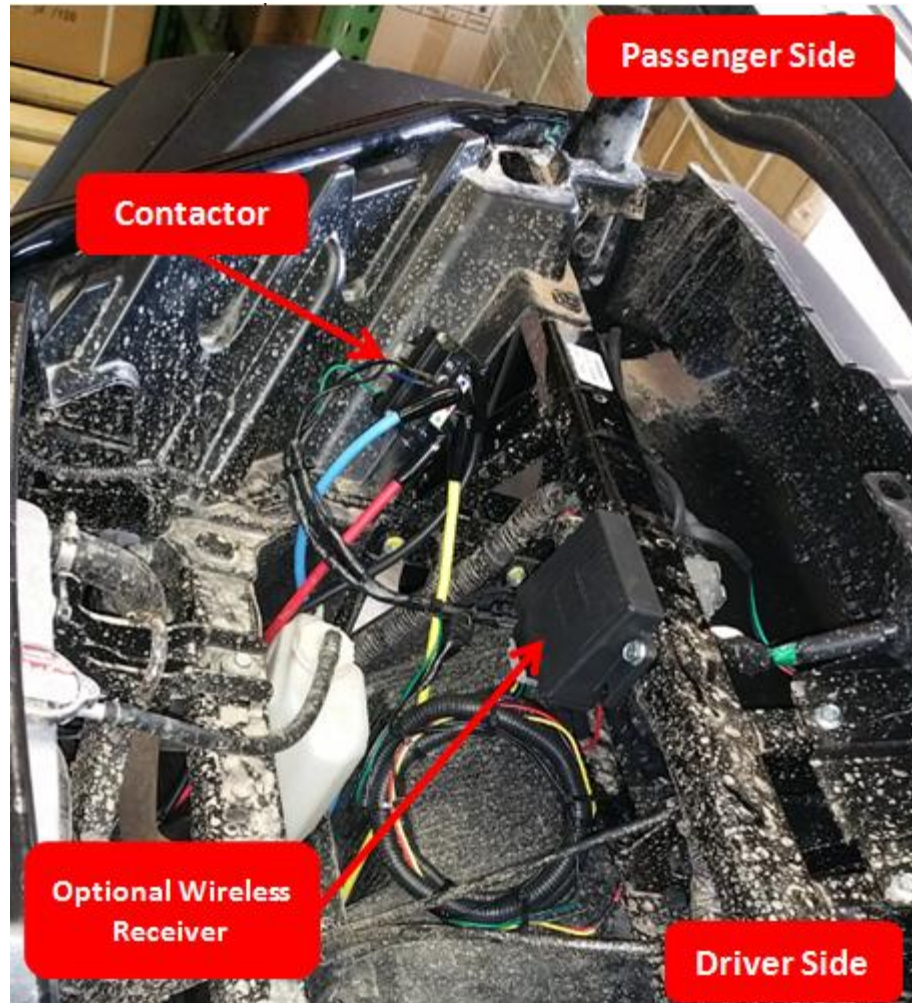

Figure 5
- 9) Although the winch contactor is built to withstand the harshest offroad conditions we recommend mounting the contactor in a 'high and dry' location. Figure 5 shows the contactor mounted to the side plastic within the front storage compartment. Connect the toggle switch or optional dash switch to the contactor terminals and connect the red wire to an auxiliary power source, we use the positive wire that feeds the cigarette lighter.